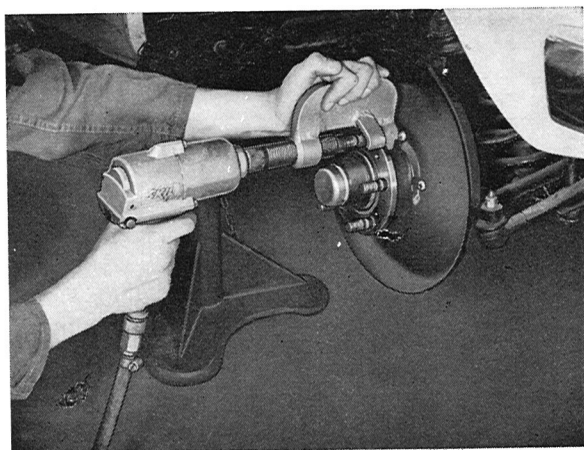

Fig. 7-16. Wheel stud removal
2. Set up tool 2862, without the accessory components, as shown in Fig. 7-16. Run the impact wrench until the stud is fully removed. If the old stud is loose in the hub, the hole must be checked. If the hole diameter exceeds 16.27 mm (.64"), the hub must be replaced.